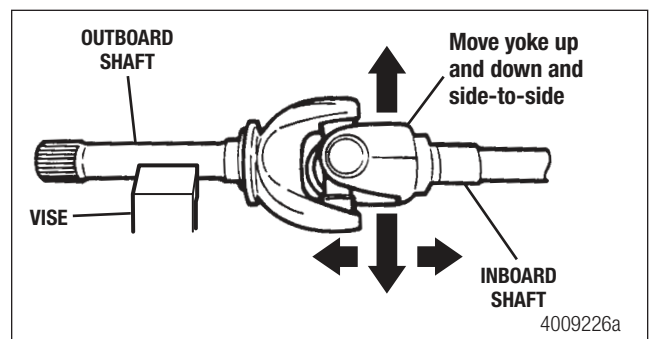

Figure 6.7
1. With the axle shaft removed, hold the INBOARD shaft with both hands. Secure the outboard shaft end in a vise. Figure 6.7.